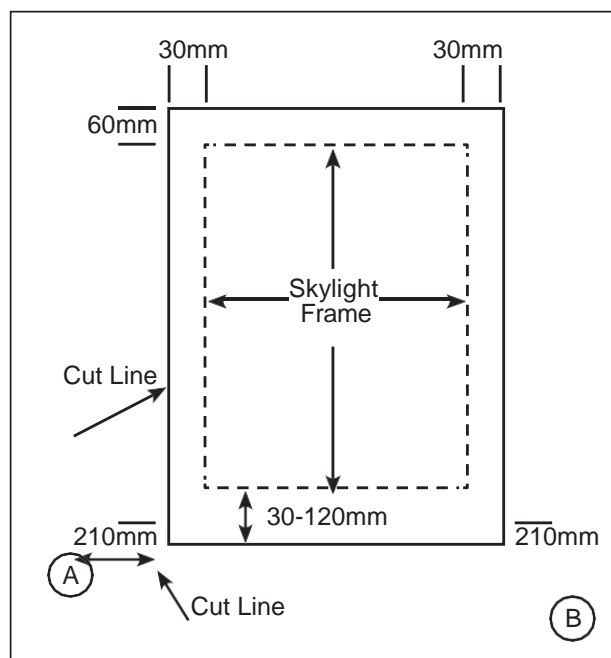

Fig 24
- 28) Cut the roofing material as shown in the diagram (cut line). Provide clearance as shown (see Fig 24). Overcut the lower cut, 210mm long, at the bottom two corners as shown. This allows the mat to pass through the metal sheet. NOTE: Ensure the bottom two cuts finish on the high point of the roofing profile shown in Fig 24 - A and B. Ensure the roof window frame is 90-120mm from the lower cut line.